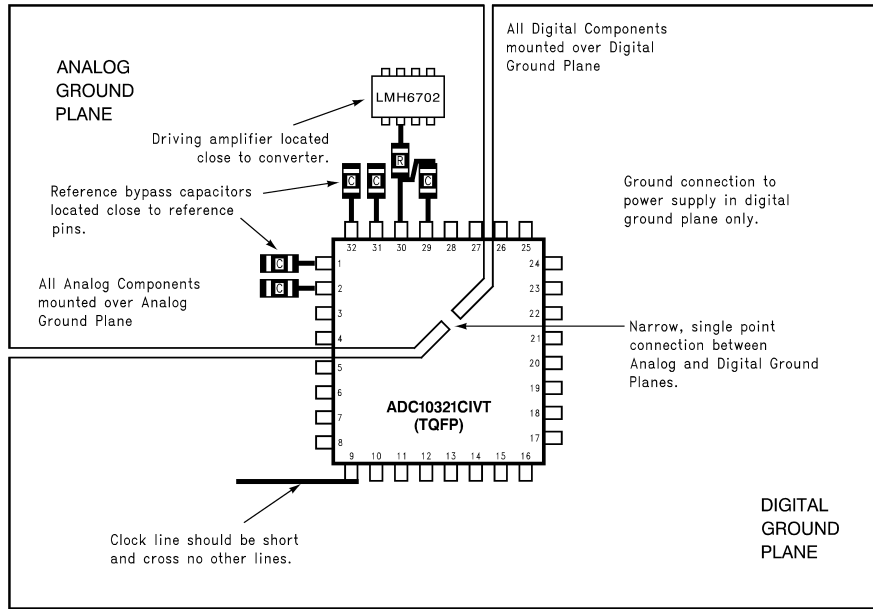

Figure 23. An acceptable layout pattern
**Figure 23** gives an example of a suitable layout, including power supply routing, ground plane separation, and bypass capacitor placement. All analog circuitry (input amplifiers, filters, reference components, etc.) should be placed on or over the analog ground plane. All digital circuitry and I/O lines should be over the digital ground plane.